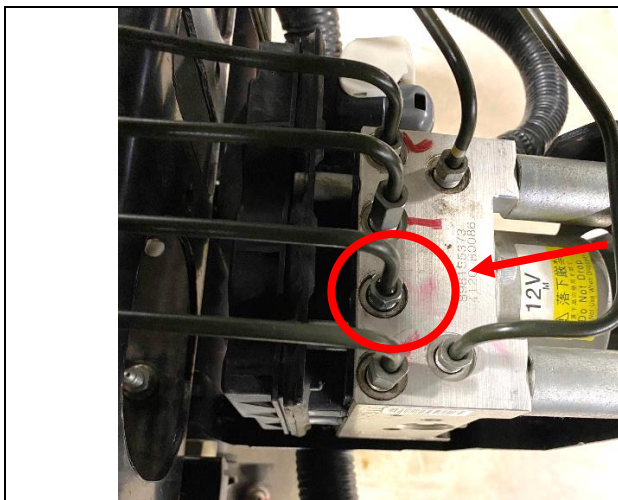

Figure 11
16. Use a 10mm line wrench to loosen the flare nuts for the Right Hand Side, Bottom brake line at the ABS EHCU and the Brake Line Union Fitting (hold the union fitting with a 14mm open end wrench as necessary). (See Figures 11 and 12.)